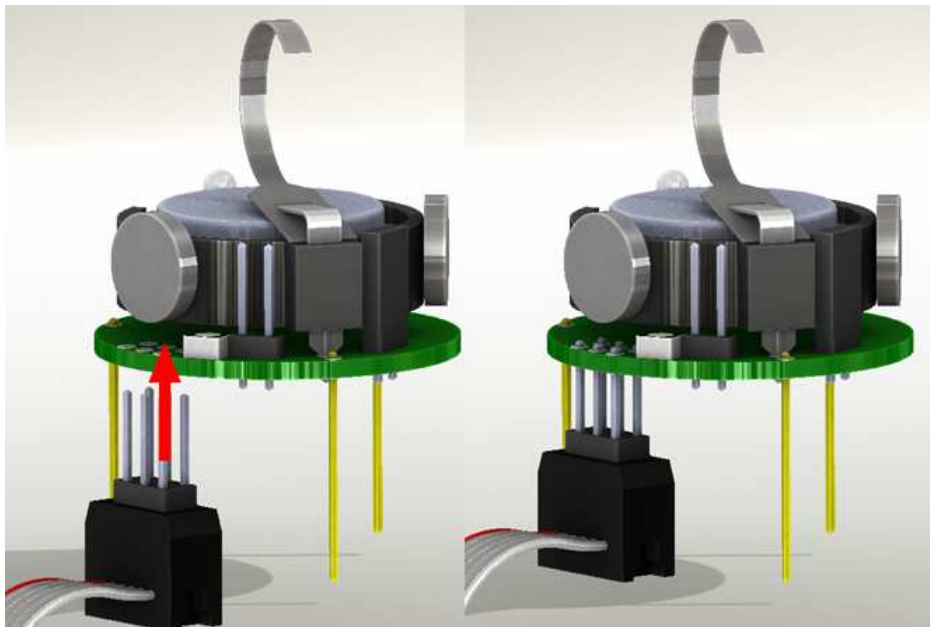

Figure 4.5: communication connector
5. Connect the AVRisp programmer to the robot as shown in figure 4.5. Make sure that the programmer pins do not touch the motor on the back side. Gently press the program cable to the side to ensure a good connection.